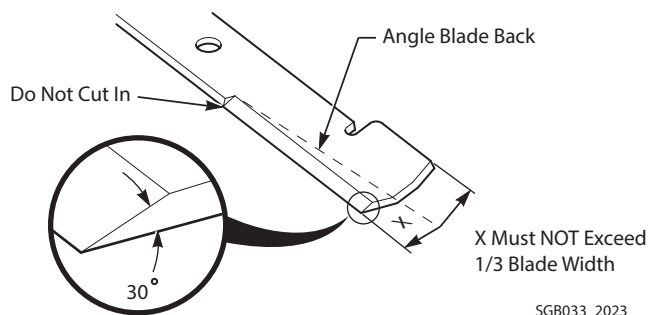

Figure 7-5. Blade Sharpening
DO NOT sharpen the blades beyond 1/3 of the width of the blade. See Figure 7-5.
1. Sharpen the cutting edge at the same bevel as the original. See Figure 7-5. Sharpen only the top of the cutting edge to maintain sharpness.